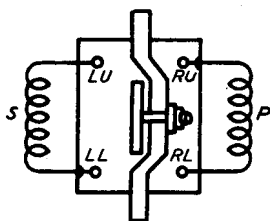

FIG. 1 - WINDING TERMINAL ARRANGEMENT AS VIEWED FROM THE FRONT (CONTACT SIDE) - A, E, F, H, R AND T TYPE RELAYS
2.02 Winding Terminals Front View: The winding terminals are designated LU, RU, LL and RL. The relative locations of these terminals as viewed from the front are illustrated in Fig. 1.